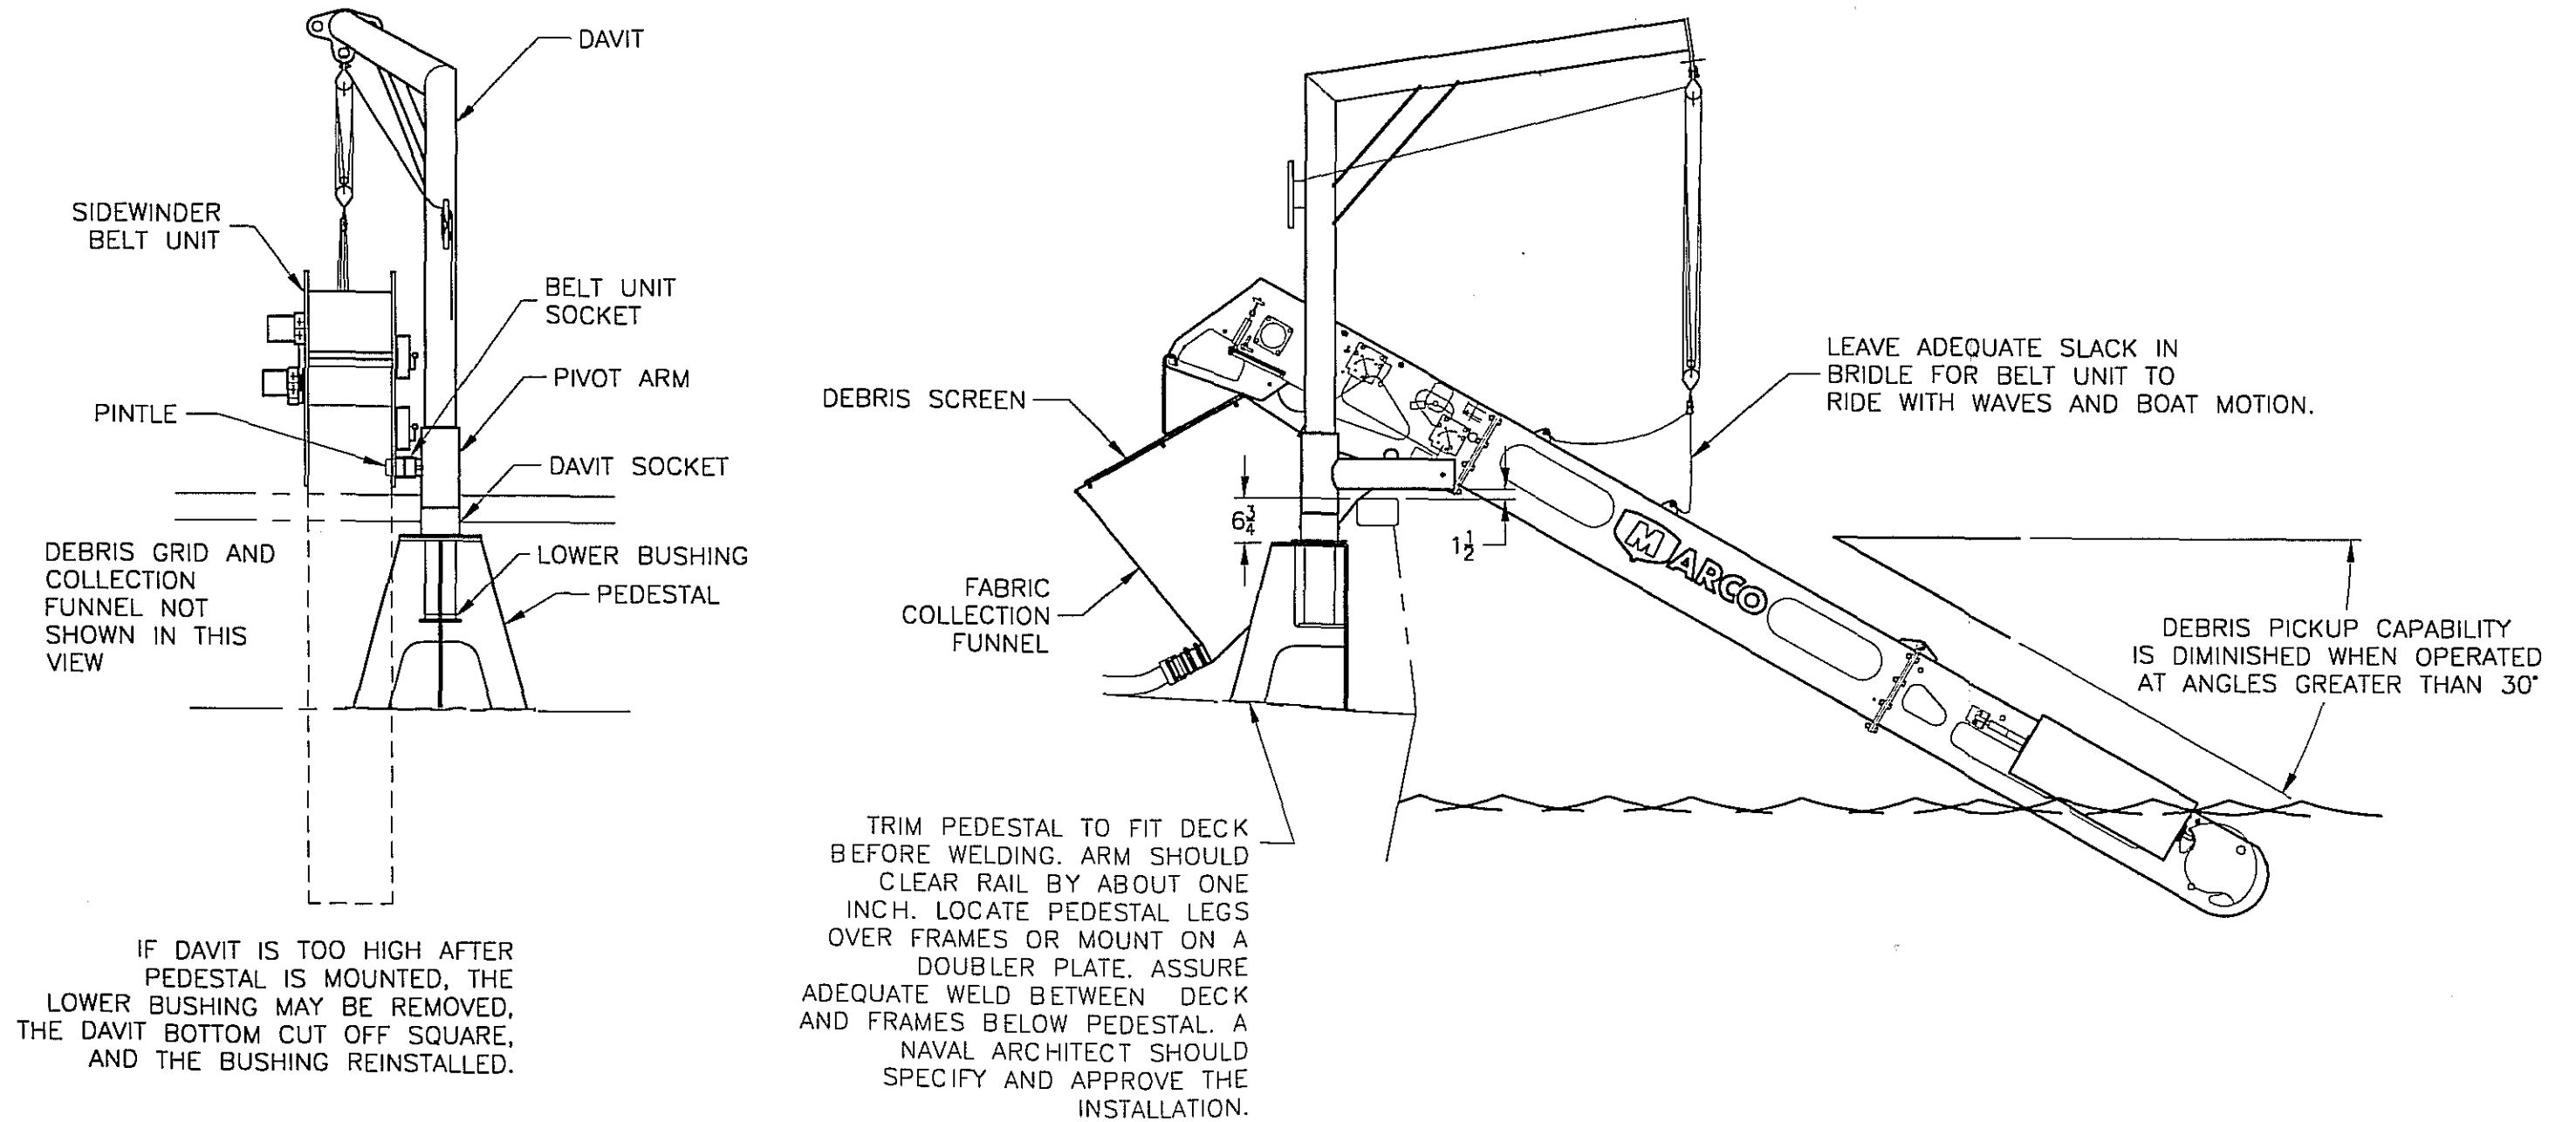

Figure 2
2. Davit Location. The davit should be mounted as shown in Figure 2. The davit should be mounted as close to the rail a possible so the davit arm can hold the belt unit over the rail with plenty of room for belt unit motion. If possible, the davit should be positioned within the mid-ship one-third length to reduce relative motion caused by the vessel pitching. Where possible, the davit should be installed directly over continuously welded deck stiffeners. Alternately, a doubler plate may be installed, but the stiffeners below should still be continuously welded to the deck beneath the doubler plate. The davit is rated for 500 pounds at its 57-inch radius (227 kg at 1.45m). A Naval Architect should specify and approve the installation.